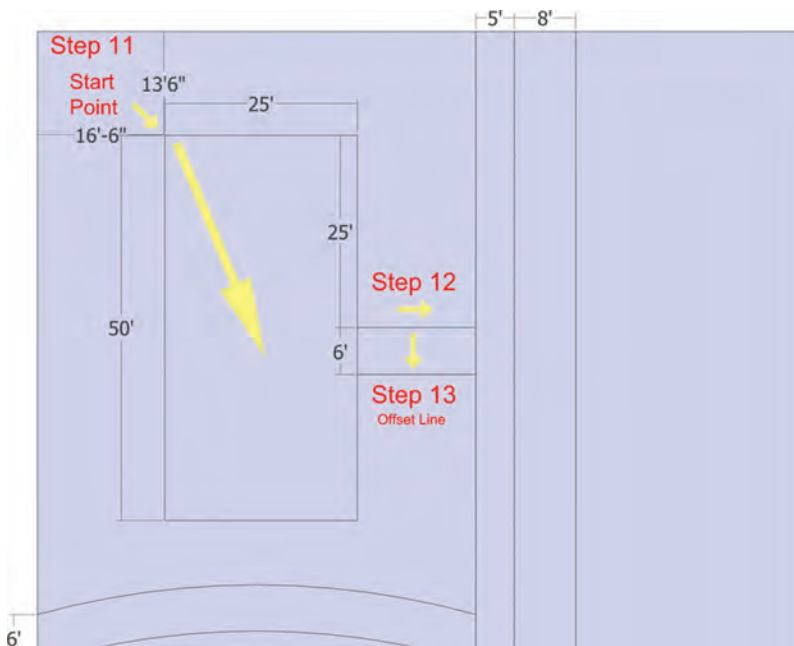

Fig. 6-9: Drawing the building footprint and building entry path
11. Build a building footprint (Fig. 6-9).
12. Add a building entry path (Fig. 6-9).